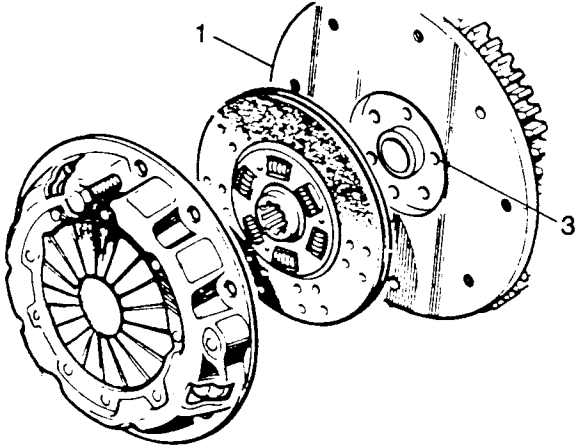

Fig B4.81
- (2) Refer to Fig B4.81. Mark the position of the flywheel (1) in relation of the crankshaft.
- (3) Remove the six bolts (3) and withdraw the flywheel.